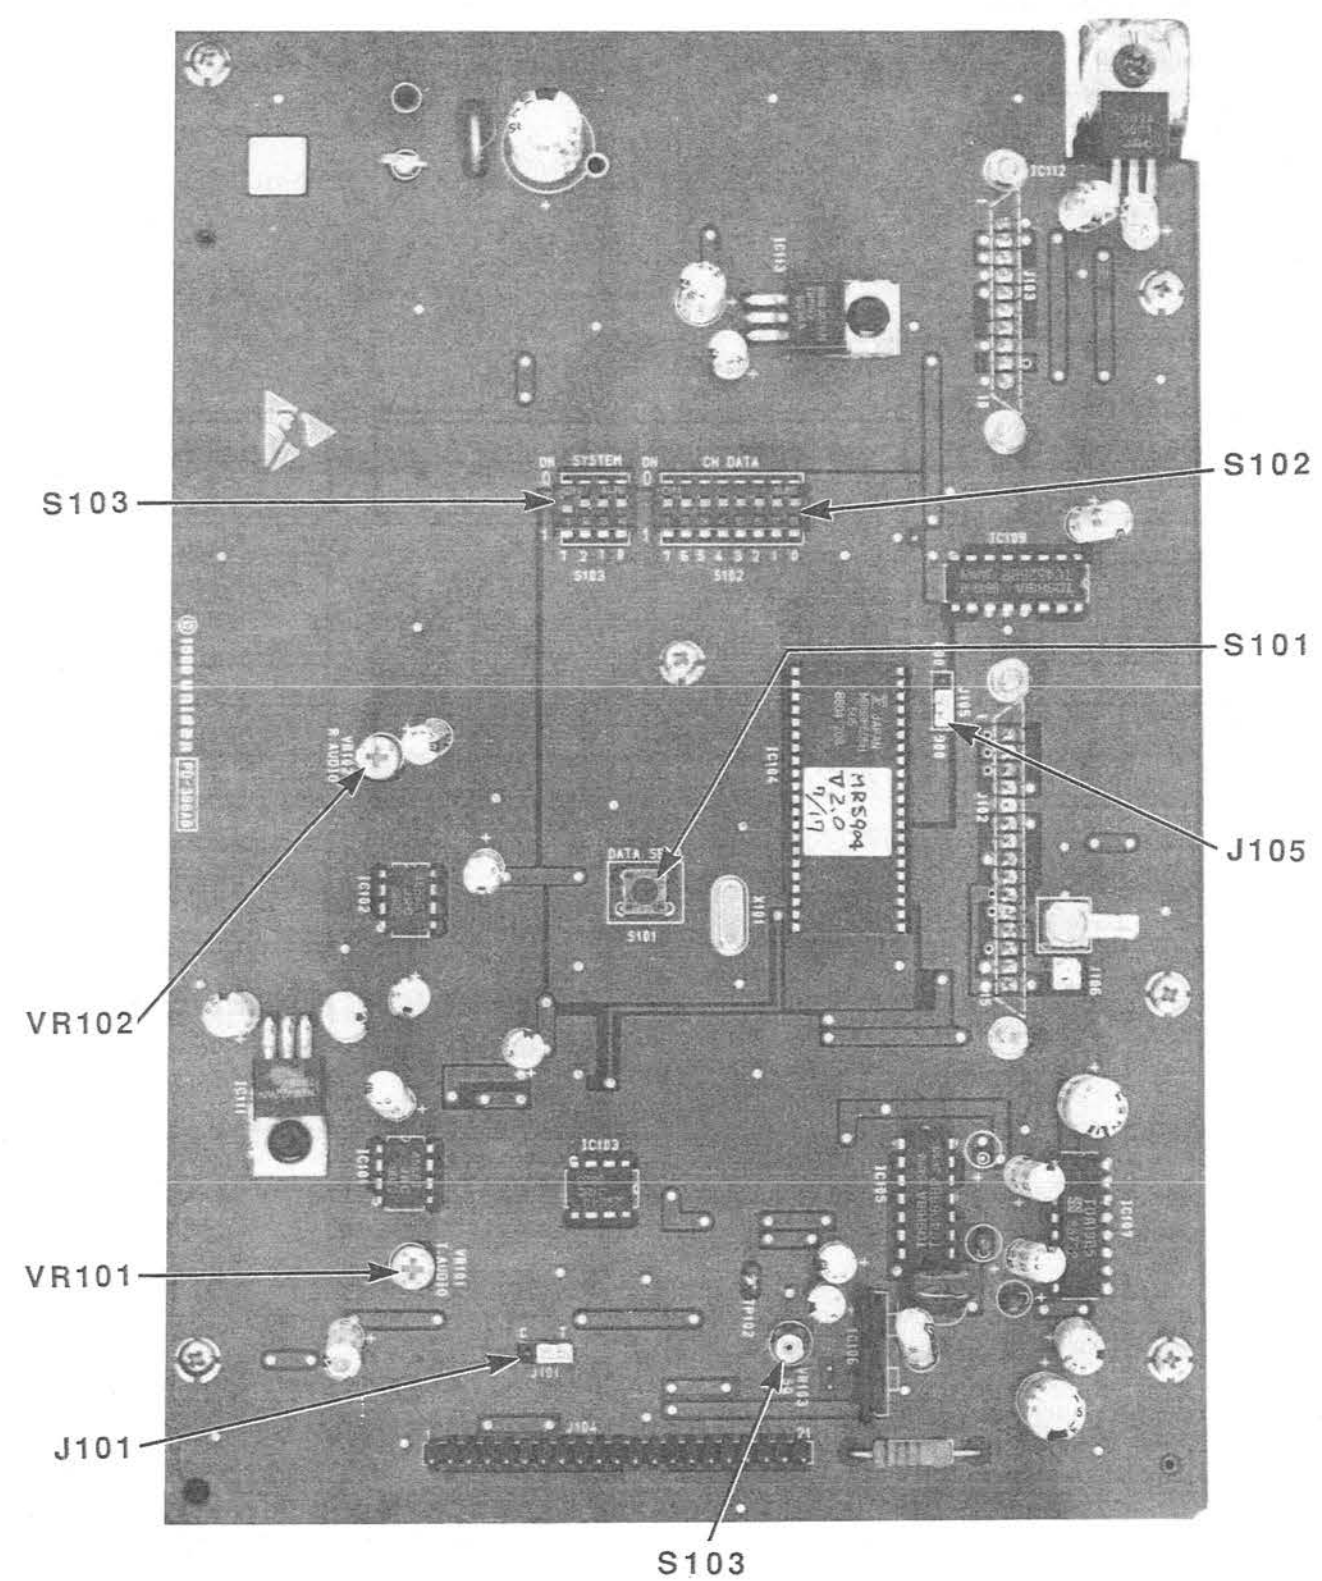

Figure 13. Motherboard Alignment Points
1. Set DIP switches S102 and S103 on the Motherboard (see figure 13) to the desired frequency using the procedure described in "Frequency Setting".